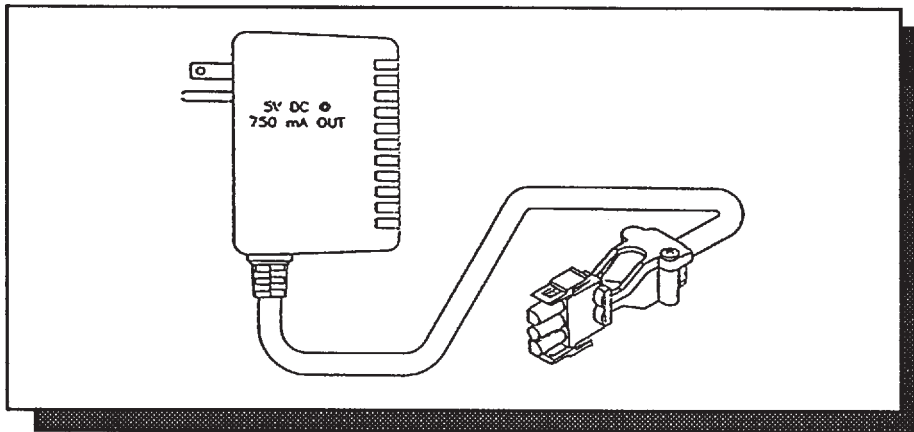

Figure 2-3 Typical Control Panel Controller Interconnection
- 115V: Remove the Power Pack from the box it was shipped in and check to insure that no damage has occurred in shipping. The 3-pin Mate-N-Lock connector should be plugged into the **POWER IN** position on the LC Control Panel. The Power Pack is configured for any standard 110VAC-120VAC plug outlet and will immediately power the unit upon connections to AC Voltage. See Figure 2-3.